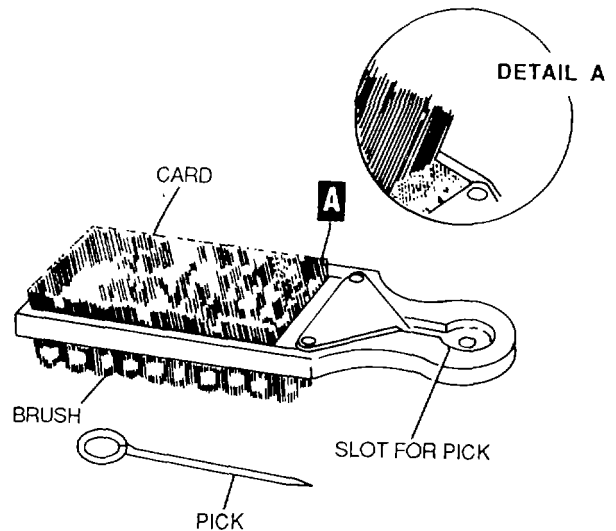

Figure 4-79. File Cleaner
- (1) Break in a new file as discussed in paragraph 4-11d(1).
- (2) Clean files using the file cleaner shown in figure 4-79.
- (3) Never strike the file against a vise or other object to remove filings. Use the file cleaner.
- (4) Do not oil files. This will cause the file to slide across the work, preventing efficient cutting.
- (5) Wrap each file in a waterproofed barrier wrapping paper. Place the files in racks or boxes so that the faces or edges of the files will not touch each other.